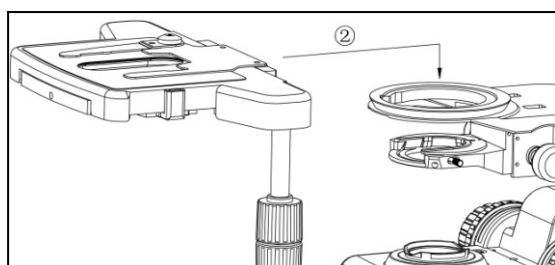
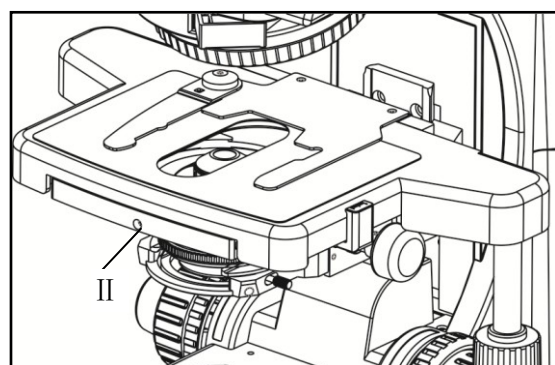

Fig 3
Fig 4
4-2-2 Install The Mechanical Object Stage(fig 3, fig 4)
- ◇ After placing the object stage steady, using the hex wrench screw the bolt, which shown as I in the figure 4, and the object stage will not waggle.